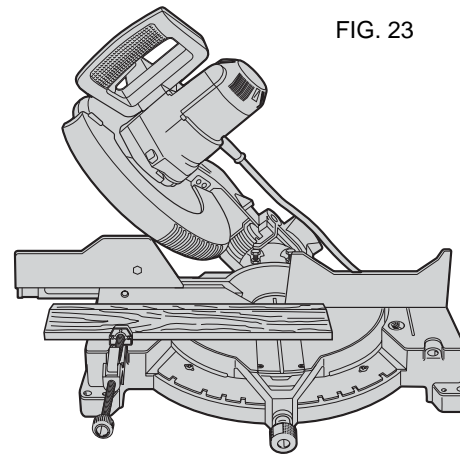

FIG. 23
- All cuts made with back of molding laying flat on the saw as shown in figures 23 and 24